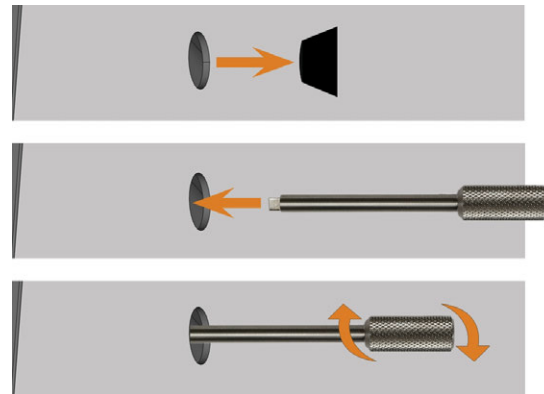

FIG. 48 USING THE KEY FOR THE EMERGENCY RELEASE
2. Deactivate the safety interlock of the working chamber door, as shown in the figure (Fig. 48 see below):